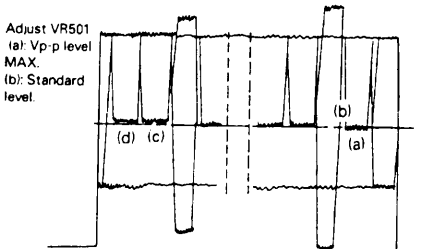

Fig 11.
- 7: Adjust the VR501 until it becomes to the waveform Fig 11.